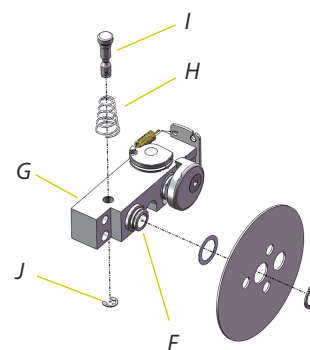

Fig 27
The wheel axle attachment in the wheel chair consists of a bushing (F, fig 27) which is pressed into the wheel mounting block (G). The axle is held in place by a spring-loaded pin (H, I) which is secured by a retaining ring (J).